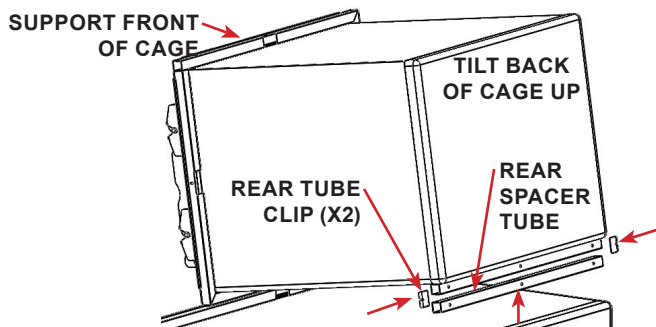

FIGURE 2.33 - Rear Spacer Tube
STEP 5: Utilize help to tilt the back of the cage up while supporting the front, align a spacer tube under the rear tube of the cage. Use the spacer tube rear clips to secure the tube in place, each end of tube. See FIGURE 2.33 and 2.34